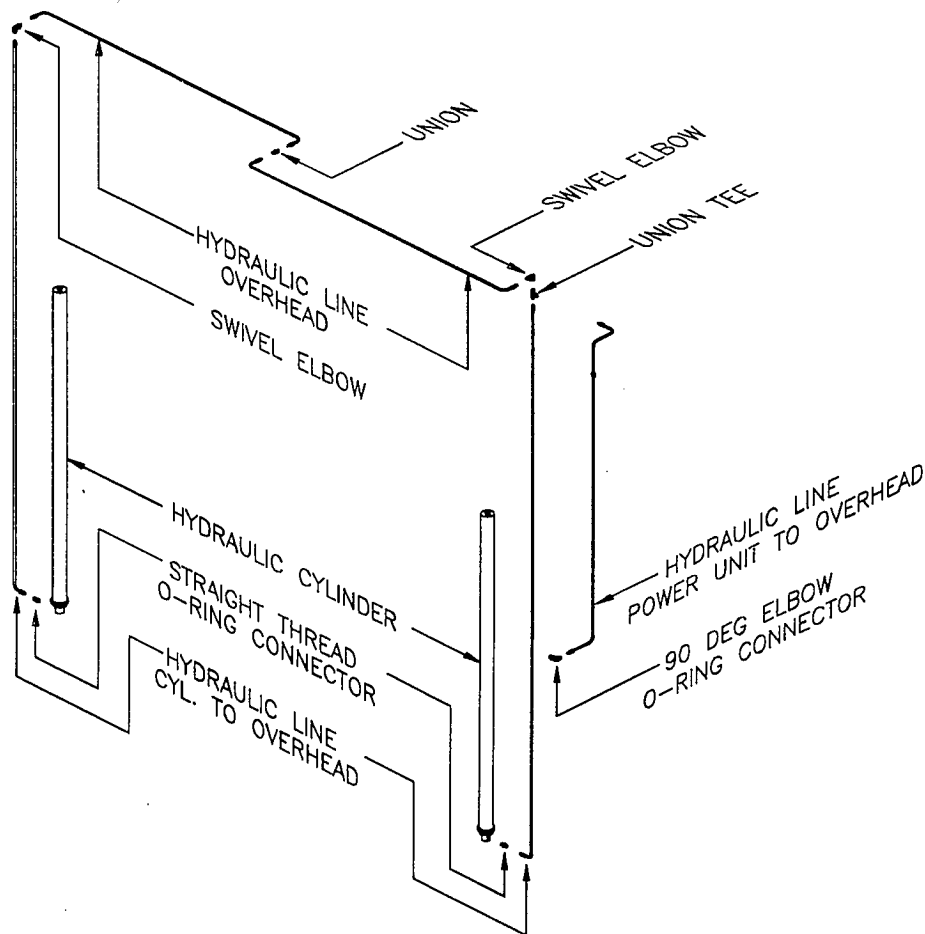

Fig 11
13. Connect the overhead hydraulic line to the cylinder hydraulic line in each column and to one another. Connect the power unit hydraulic line to the union tee in the top of the power column and to the power unit 90 degree elbow. Make sure the cables clear during operation. **See Figure 11**